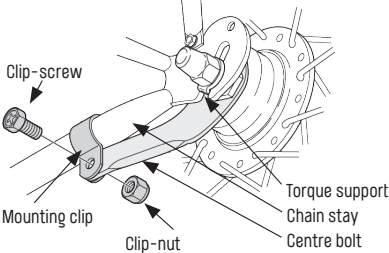

Fig. 3/31 Centre bolt; source Shimano
- Coaster brakes are fitted with a centre bolt ("Fig. 3/ Centre bolt; source Shimano"), which rests on the chain stay of the frame. For correct operation, it must be firmly mounted using a fastening clip or directly on the chain stay.